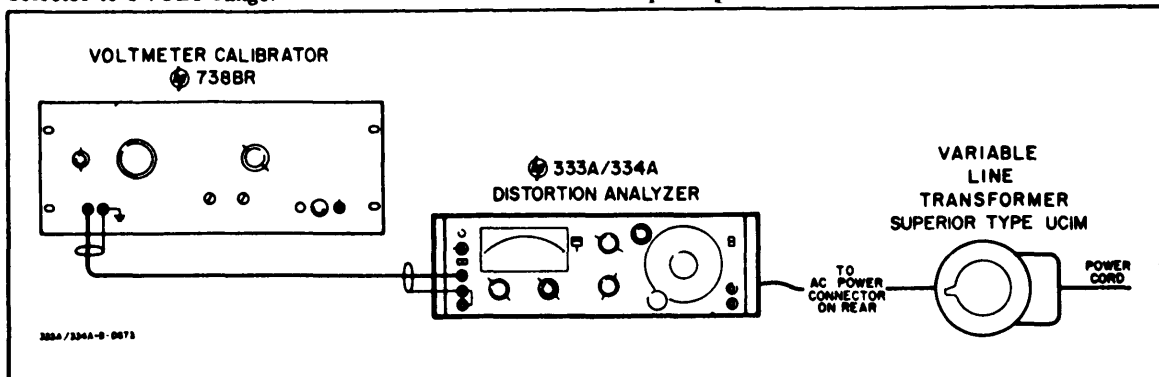

Figure 5-5. Voltmeter Accuracy check Test Setup
a. Connect Voltmeter Calibrator (-hp- Model 738B) and Variable Line Transformer (Superior Type UC1M) to Distortion Analyzer as shown in Figure 5-5. Remove shorting bar between power line ground and circuit ground terminals.